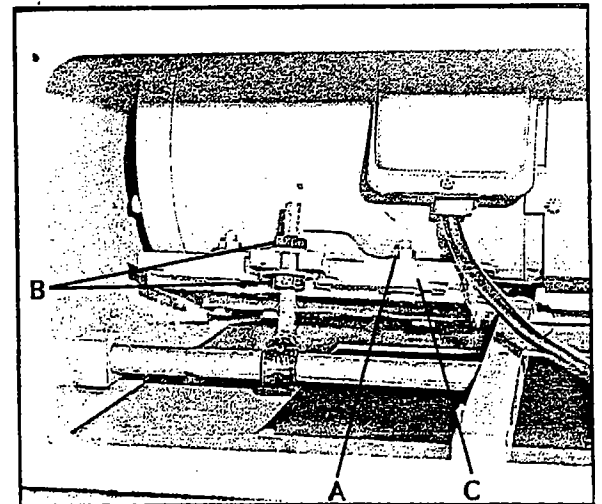

Fig. 20
3. Board (A) Fig. 20, underneath the motor plate as shown.
4. Loosen two bolts (B) Fig. 20, and pry up on the motor plate until correct belt tension is obtained. Correct tension is obtained when there is approximately 1/4" deflection in the center span of the belts using light finger pressure. Then tighten two bolts (B) Fig. 20, and replace side cover.